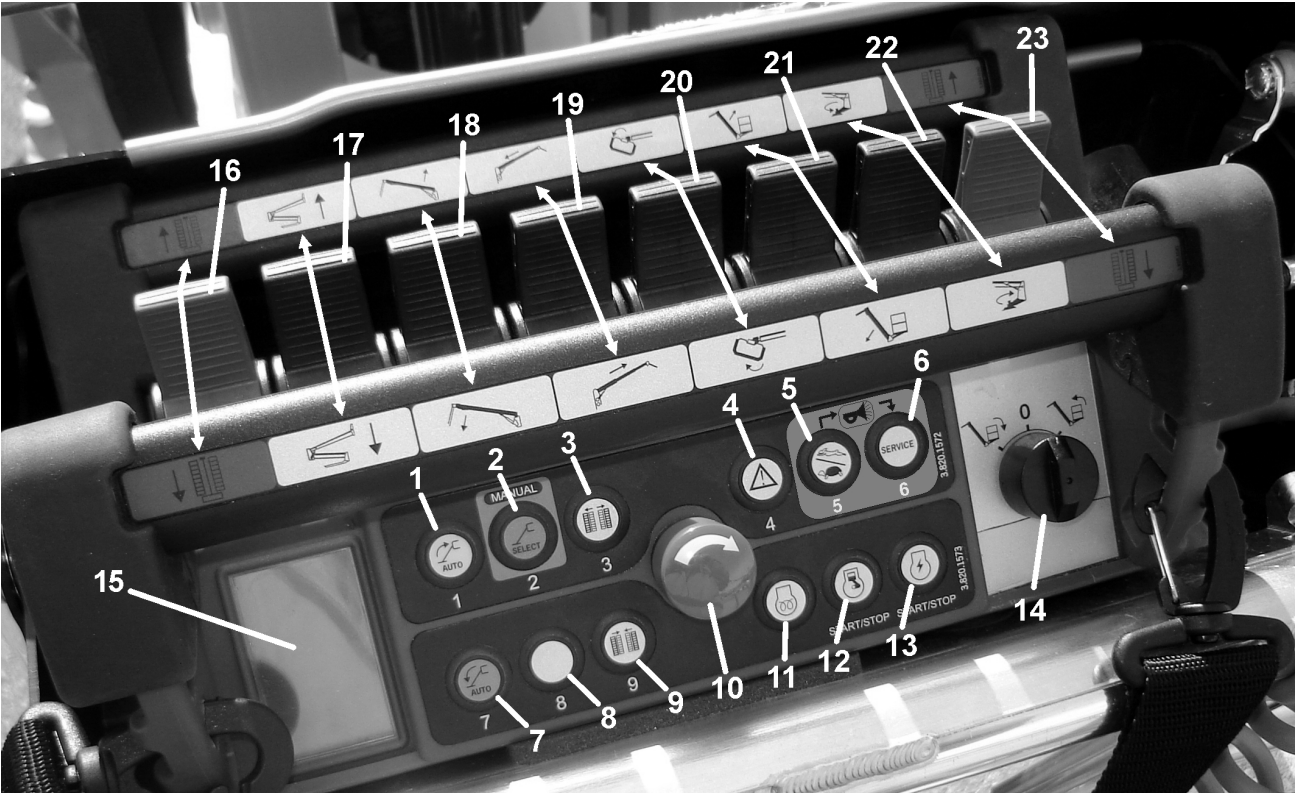

Figure 3-3. Platform/Remote Control Station (Prior to SN C170002458)
See Figure 3-3., Platform/Remote Control Station for remaining items.
At machine start-up and during machine operation the main LCD display screen (Item 15 - Figure 3-3.) is activated. There are eight (8) display positions which indicate machine status during various stages of operation.